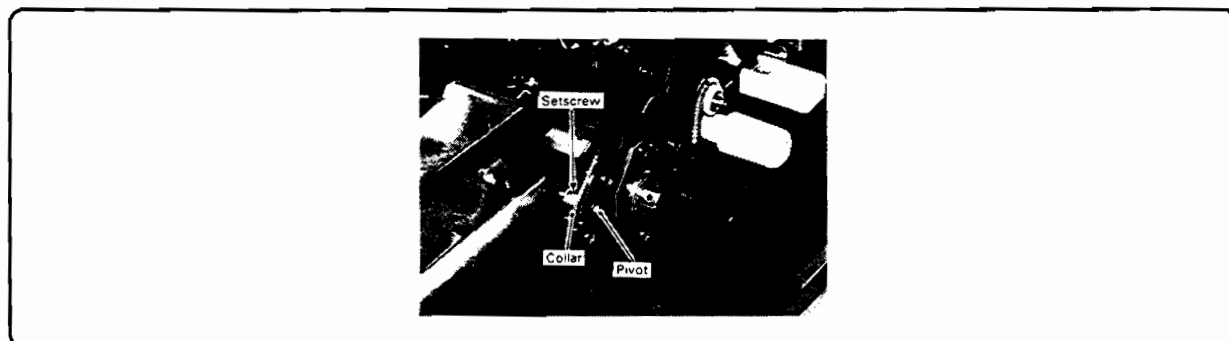

Figure 6-154. Duplex Holding Tray Removal
2. Loosen the set screw of the collar (Figure 6-154).